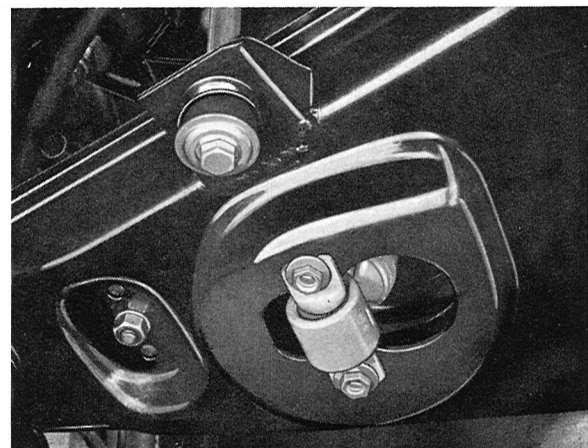

Fig. 7-9. Lower attachment, front shock absorber
The front shock absorber lower attachment (Fig. 7-9) cannot be disassembled. It consists of an eyelet provided with a rubber bushing and a piece of tubular pipe with flattened ends which are screwed to the bottom side of the lower control arm.
2. Remove the two lower attaching bolts (Fig. 7-9) on the underside of the lower control arm, and remove the shock absorber.